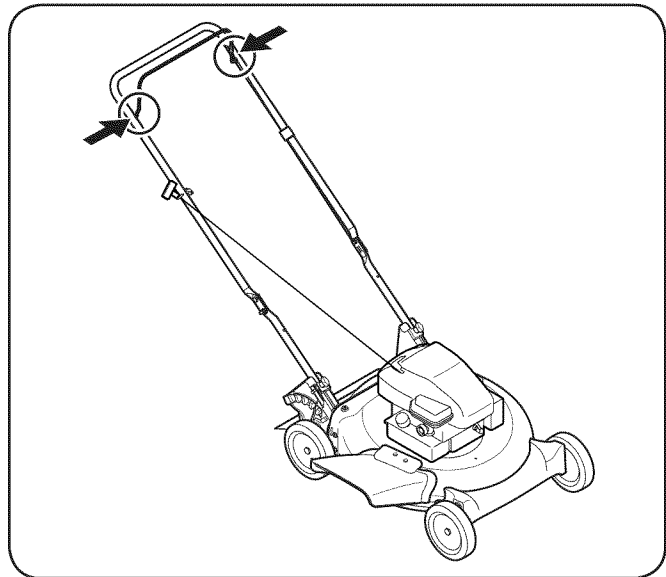

Figure 6-1
1. Lubricate pivot points on the blade control at least once a season with light oil. The blade control must operate freely in both directions. See Figure 6-1.